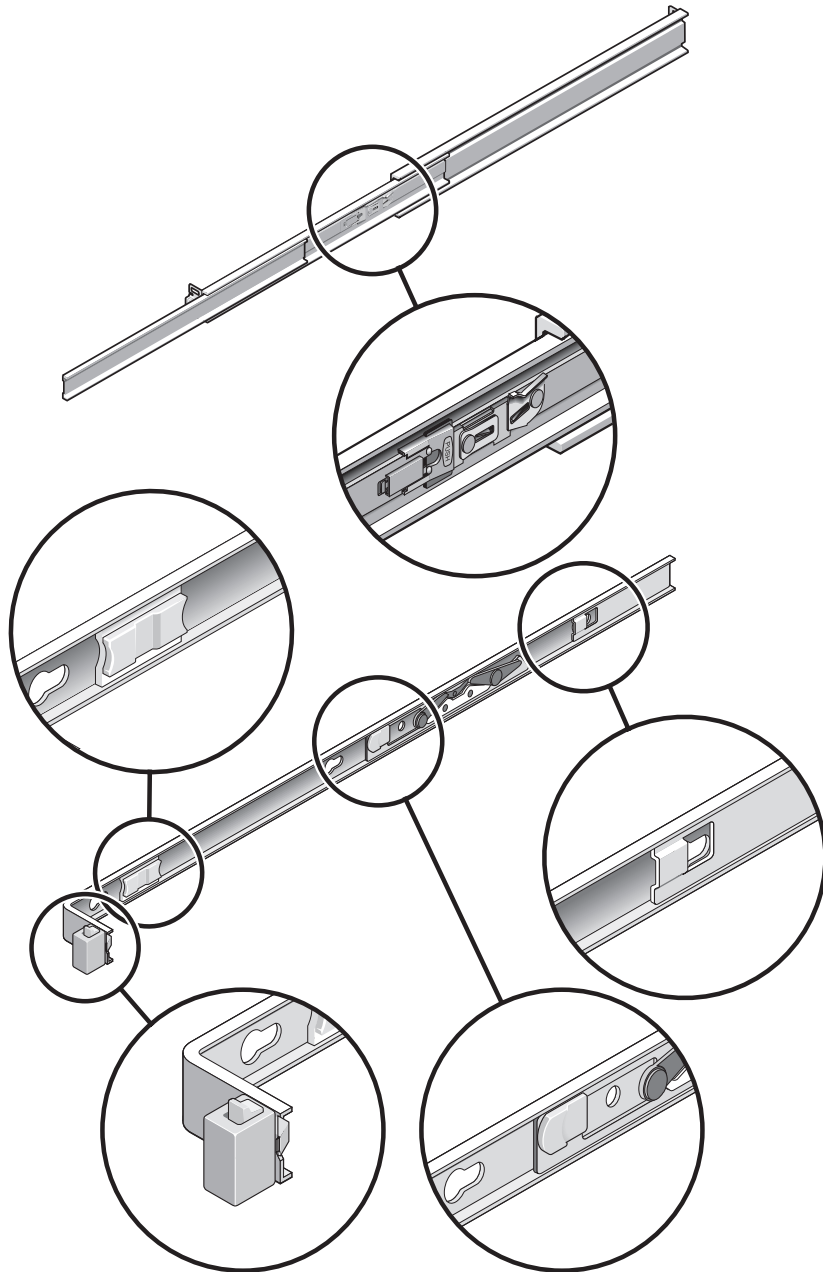

FIGURE 1-5 Locating the Locks on the Slide Rail Assembly
- Note that there are a total of five locks (FIGURE 1-5) in a slide rail assembly. Four are on the mounting bracket. One lock is on the front section of the slide rail. The uses of these locks are described in the installation procedure in Chapter 2.